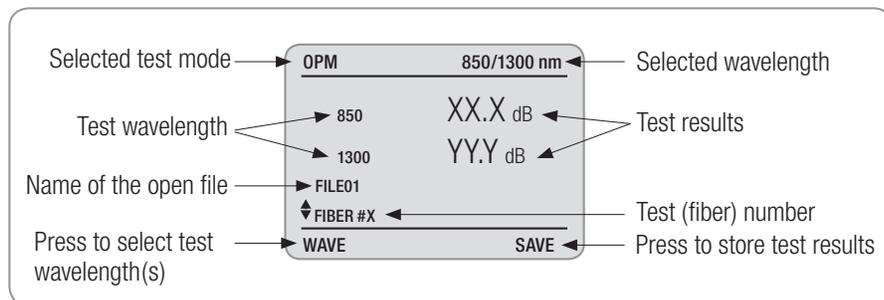

Figure 4-2. The ORL Mode Test Screen.
- 4 Attach the APC connector on the reference cable to the Test Port (Figure 4-2). Use a dust cap for covering UPC connector to prevent ambient light.